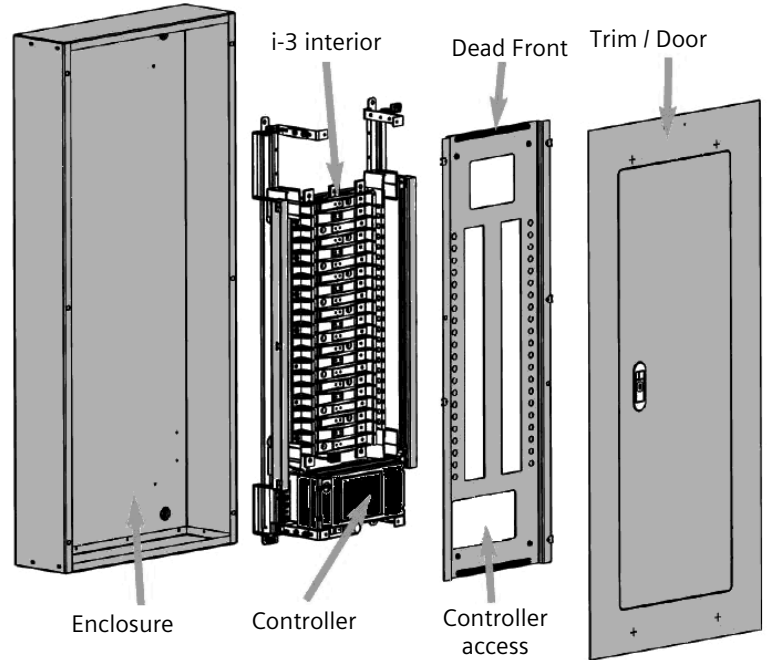
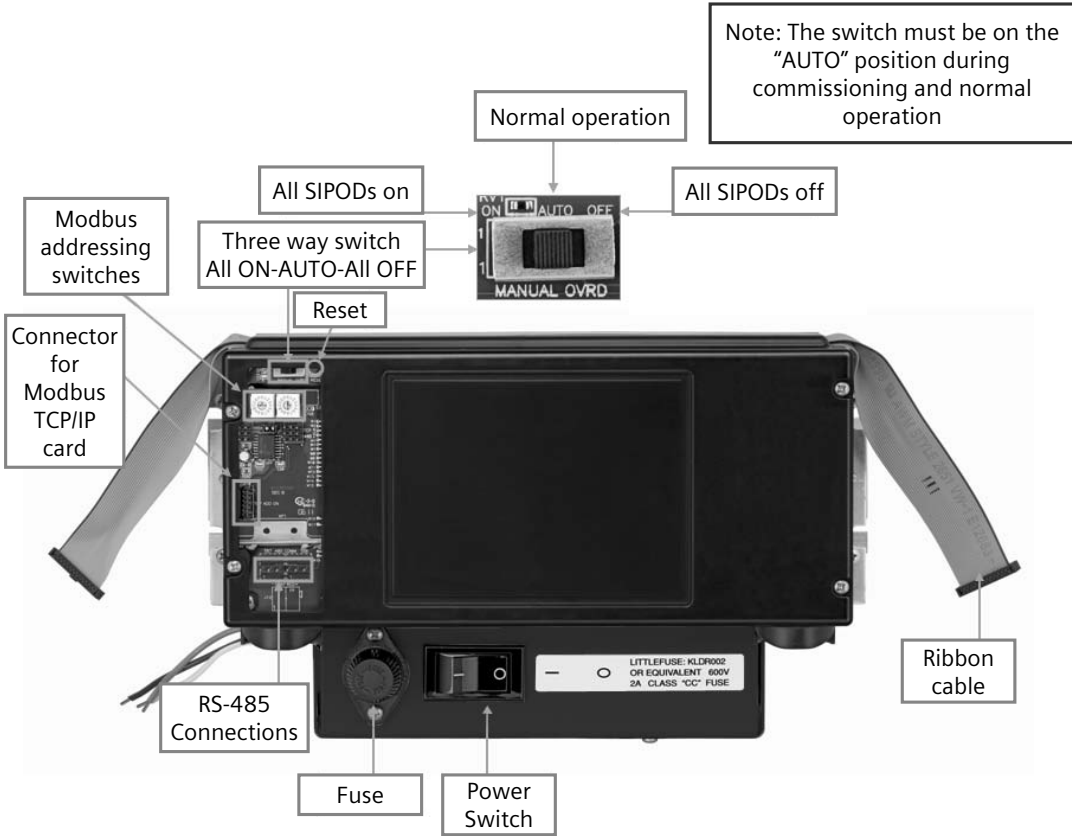
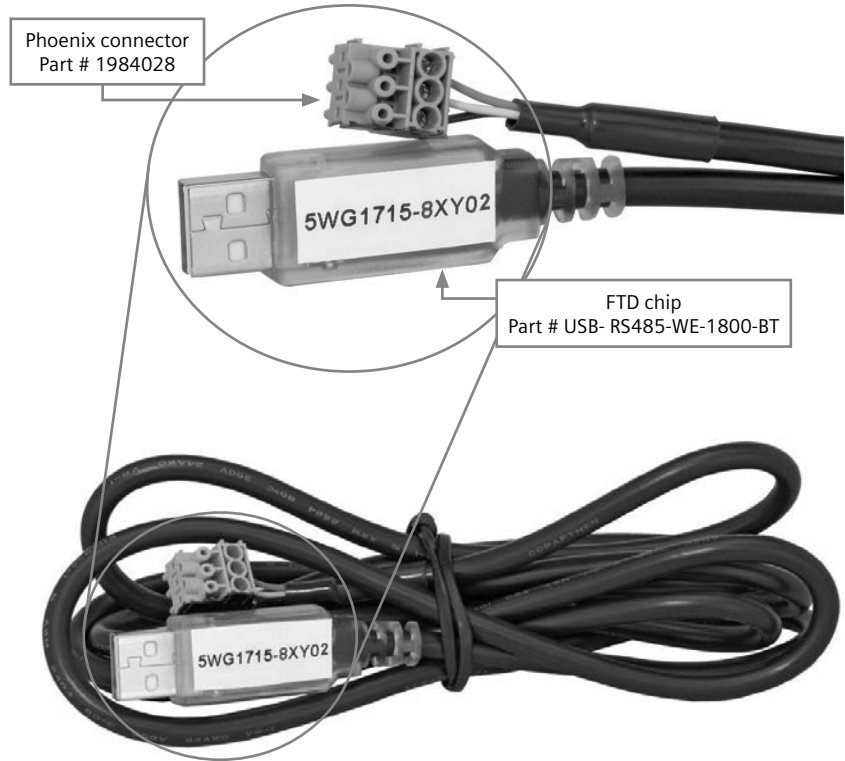

Figure 1
Figure 2: I/O Modbus and BACnet Controller
Figure 3
Note: If the I/O controller does not power ON after the panel has been energized, follow the safety procedures to de-energize the panel and remove the trim and the dead front (Figure 1) to verify if the power switch on the I/O controller is ON (Figure 2).
2. Place the power switch on the I/O controller in the ON position (Figure 2). If the switch is ON, but the controller remains OFF; check the fuse. It should be inserted with the narrow tip toward the controller. (The fuse is 2 Amp, class CC.)
3. Place the ALL ON-AUTO-ALL OFF switch on the I/O controller in the middle 'Auto' position (Figure 2). The switch should remain in the "AUTO" position during the commissioning process.
6. Connect a computer to the I/O controller's RS-485 terminal (Figure 2). Use USB-RS485 converter cable (SIEMENS # 5WG1715-8XY02). See Figure 3 for connections reference.
Note: You may also build your own converter cable (Figure 3). The USB-RS485 converter is part # USB-RS485-WE-1800-BT from FTDChip and a Phoenix connector part # 1984028 (Figure 3). If your computer has a serial port; you can also use an RS232-RS485 converter (not supplied by Siemens)
2. Remove the trim and the dead front to verify that the power switch on the system controller is ON (Figure 1). If the switch is ON, but the controller remains OFF; check the fuse for integrity and correct installation. It should be inserted with the narrow tip towards the controller.
Caution: If the I/O controller does not power ON after the panel has been energized, follow the safety procedures to de-energize the panel; remove the trim and the dead front to verify the ON/OFF switch on the I/O controller is in the ON position (Figure 1). If the switch is ON, but the panel remains OFF; Check the fuse. It should be inserted with the narrow tip towards the controller. Be sure to reinstall the dead front before proceeding. * Panelboard must be de-energized before removing the dead front.*